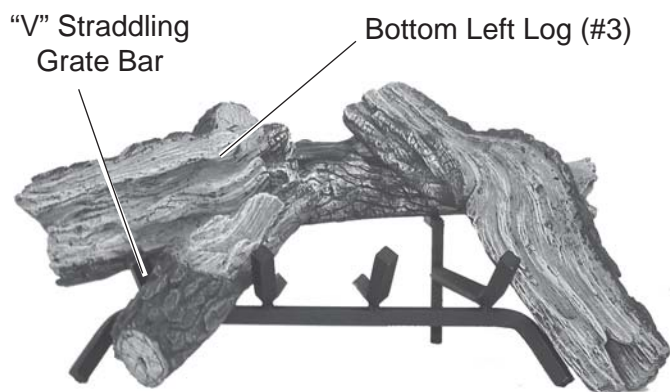

Figure 125 - Straddling “V” of Bottom Left Log (#3) on Grate Bar
4. Place Bottom Left Log #3 on grate. The “V” of the log should straddle the end grate bar. See Figure 125.